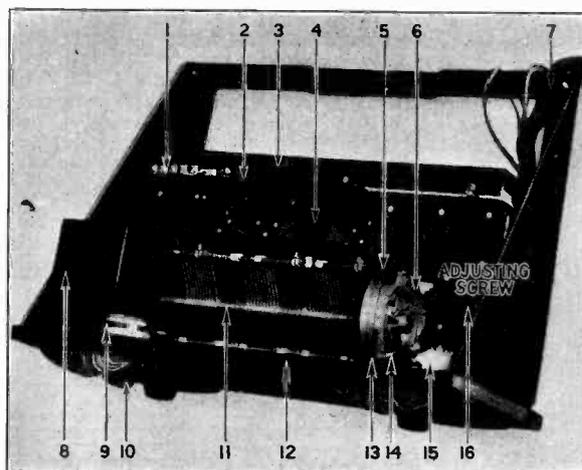

Fig. 2—Top of Radiola
1. STATION SELECTOR—The three tuning condensers are controlled from the station selector knob which operates the drive mechanism. A switch on the control, operated by pushing the knob, short circuits the voice coil of the reproducing unit while tuning the instrument. Should it become necessary at any time to remove this knob, the set-screw can be loosened by inserting a screw driver up through the hole in the radio panel. Any slack in the condenser drive cable can be taken up by tightening the adjusting screw shown in Fig. 2. The tuning switch mechanism is simple, and should not ordinarily require any adjustment.